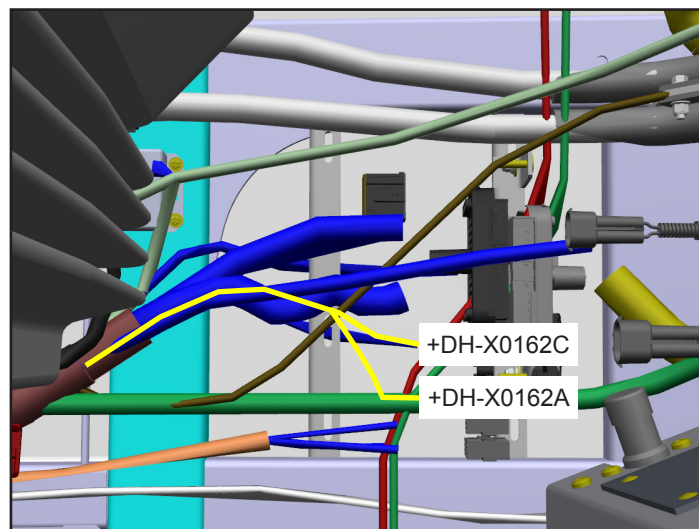

Figure 8 - Connector +DH-X0162C / +DH-X0162A Positioning
- 1.15. Connect the cables CAB001VAA and CAB001VAB into +DH-X0162C. Also, connect cable CAB001VAC into +DH-X0162A (see Figure 8 and Table 2).